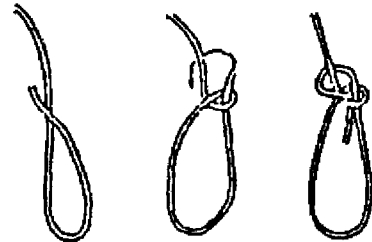

Fig. 3-27-1 Fig. 3-27-2 Fig. 3-27-3
- a. Hold the end of the rope in your right hand and the standing part of the rope in your left. Lay the end over the standing part. (Fig. 3-27-1)